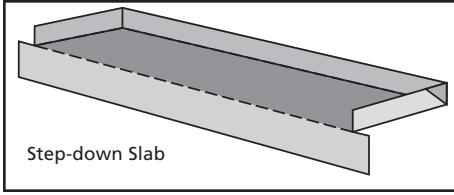

Fig. 5 Finished sill pan for step-down landing
- For door with step-down landing: fold down at remaining crease line (**Fig. 5**).